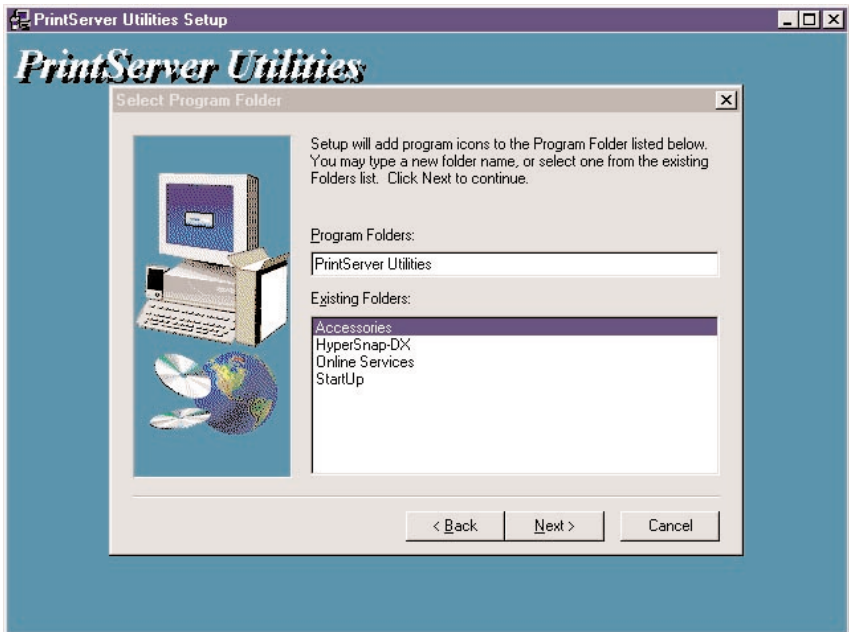

Figure 4-6. Choosing the program folder.
6. Select the components you want to install by checking the box next to the components. We recommend installing all provided components. To go back to the previous screen, click on the **Back** button. To cancel your changes, click on the **Cancel** button. To save your changes, click on the **Next** button. Once you press **Next**, Figure 4-6 appears.